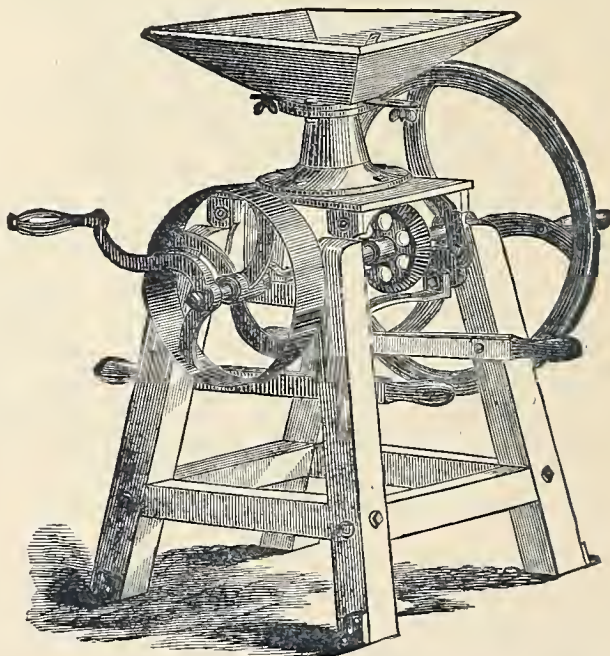

Fig. 414. — Horse and Hand Grain-Mill.
*The Horse and Hand Grain-Mill*, represented by *Fig. 414*, is made of iron,